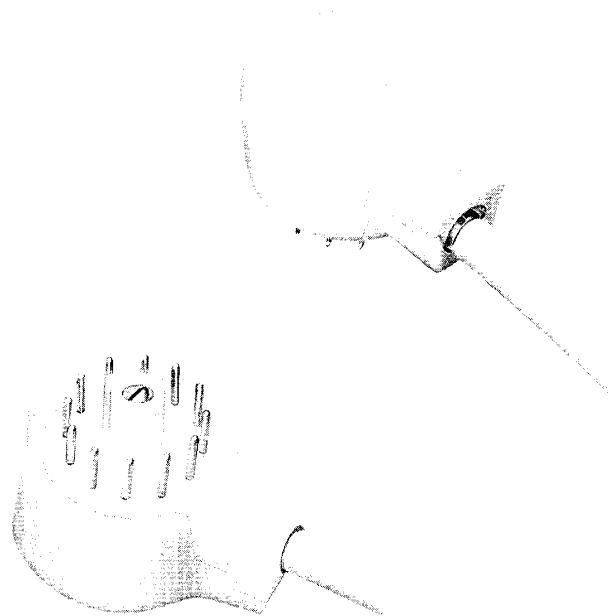

Fig. 1—504A Plug
2.02 The 504A is a 12-terminal plug (Fig. 1) consisting of a molded plastic block, cord tip guide, and cap assembly held together by one
3.02 Connections for the 504A plug (Fig. 1) are as follows: